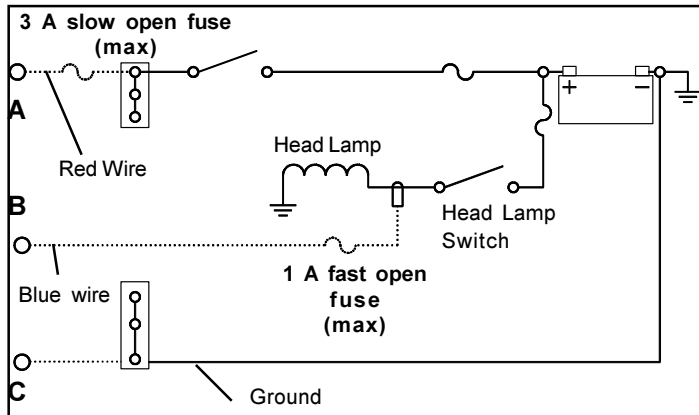

Figure 10 Power Supply Schematic
- Fuse the Red wire (A-contact) of the vehicle harness to the ignition bus with a 3 A slow open fuse. See Figure 10.
- The Blue wire (C-contact) of the vehicle harness must be fused with a 1 A fast open fuse to the headlamp circuit. When the headlamps are on, the Blue wire should have 12 V applied to it. See Figure 10.
- Connect the Black wire to the vehicle ground bus. See Figure 10.